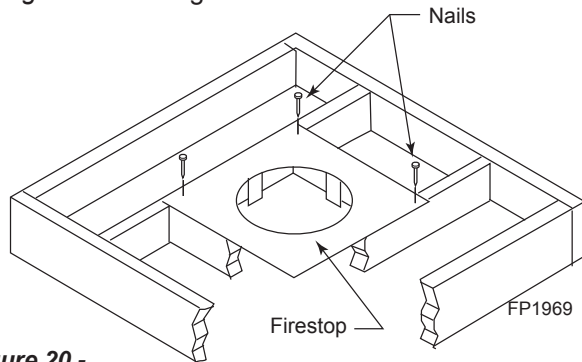
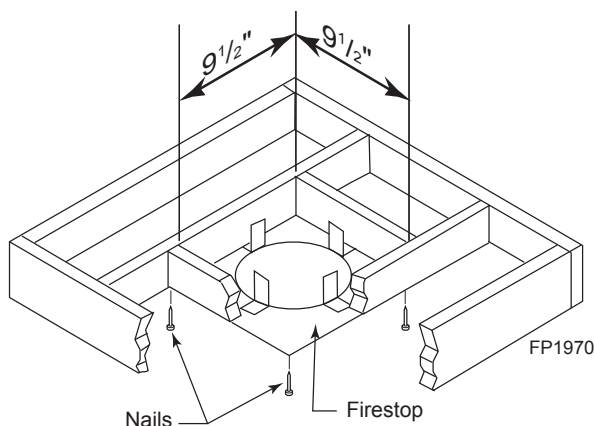

Figure 20 -
Figure 21 - If area above is not a room, install firestop below framed hole as shown
1. Cut a 9½" (241 mm) square hole in the ceiling using the locating hole as a center point. The opening should be framed to 9½" x 9½" (241 x 241 mm) inside dimensions as shown in *Figure 21* using framing lumber the same size as the ceiling joist. If the area above the ceiling is an insulated ceiling or a room, nail firestop from the top side. This prevents loose insulation from falling into the required clearance space. *Figure 20*. Otherwise, install firestop below the framed hole. The firestop should be installed with no less than three nails per side. *Figure 21*.